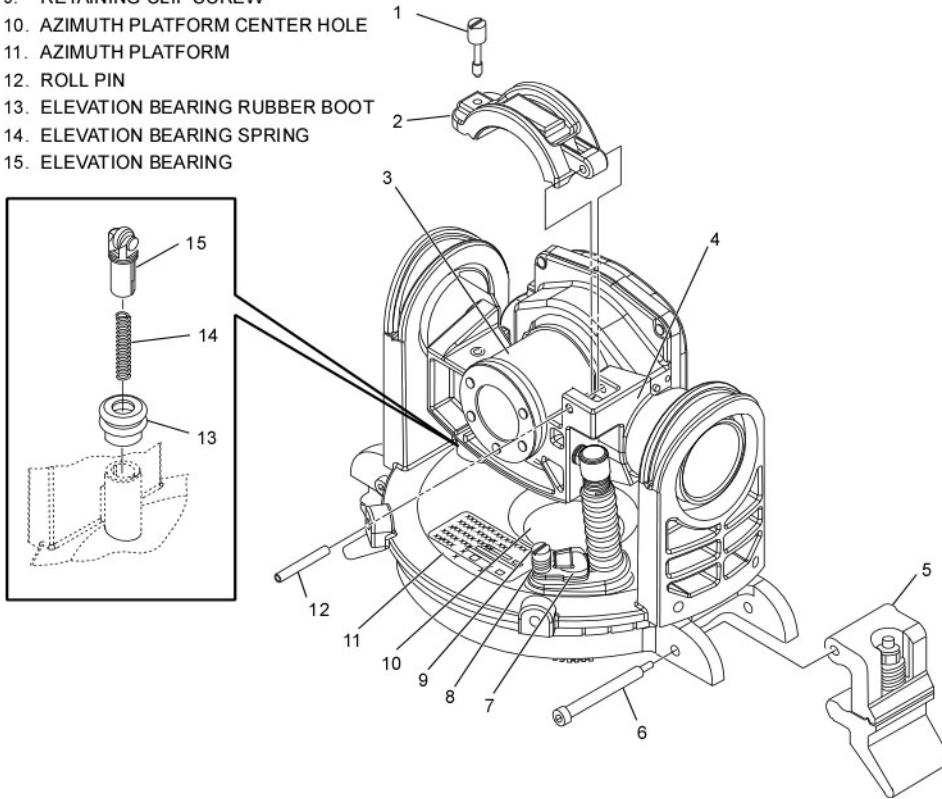

Figure 5-15. PTM Assembly
5-8.5 Sensor Clamp, Upper Half Replacement (Figure 5-15)
5-8.6 PTM Assembly Latch Assembly Replacement (Figure 5-9 and Figure 5-15)
2. Remove PTM assembly (6) from vehicle.
3. Remove shoulder screw (6) securing latch assembly to PTM assembly and remove latch assembly. (Figure 5-15).
4. Clean shoulder screw (6) threads and apply adhesive loctite (Figure 5-15).
5. Install replacement latch assembly into PTM assembly and secure with shoulder screw (6). Torque to 45 +/- 1-inch pound. (Figure 5-15)
5-8.7 Elevation Bearing Replacement (Figure 5-15)
5-8.8 Elevation Retaining Clip Replacement (Figure 5-15)